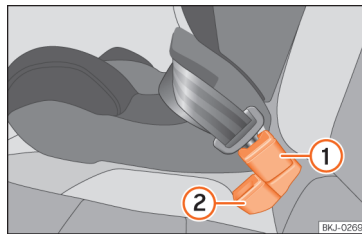

Fig. 42 Position of the belt buckle on the rear seat
- Place the middle seat's belt buckle >>> **Fig. 42**
- 1 behind the side seat's belt buckle >>> **Fig. 42**
- Plug the middle seat's seat belt into the middle seat's belt buckle >>> **Fig. 42** 1 and make sure it clicks in place.
- For seat belts to be correctly fitted, the buckles must not be twisted >>> **Fig. 42**.